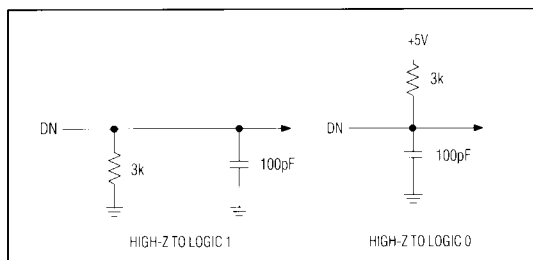

Figure 1. Load Circuit for Access Time Test
**Note 6:** Timing specifications guaranteed by design. All input control signals specified with tr = tf = 5ns (10% to 90% of +5V) and timed from a voltage level of +1.6V. See loading circuits in Figures 1 and 2.